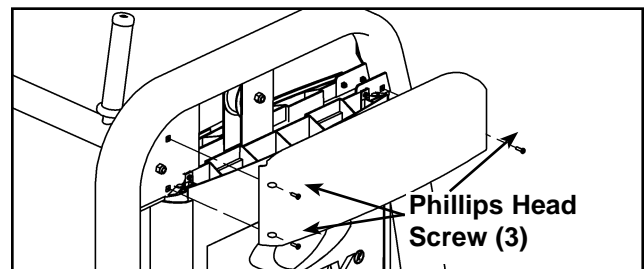

Figure 16
- Install the three Phillips head screws securing the top (back) shroud. See Figure 16.